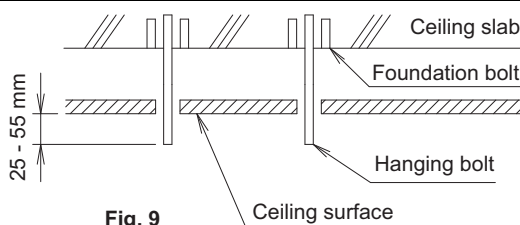

Fig. 9
(6) Install the hanging bolts.
- Adjust the length of the hanging bolt from the ceiling in advance. (Refer to Fig. 9)
- Parts shown Fig. 9 will be all field supply.